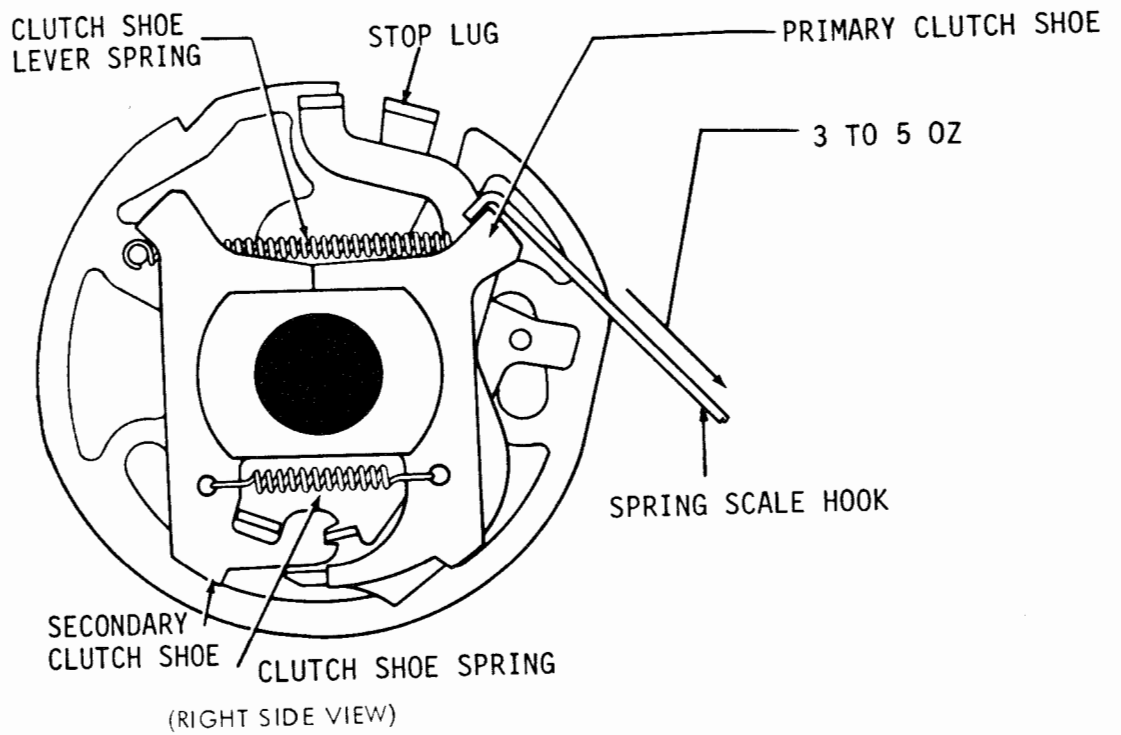

Figure 6-33. Clutch Shoe Spring
- (a) Refer to figure 6-33.
(4) Clutch Latch-Lever Spring (Except Selector). Adjust clutch latchlever spring as follows: